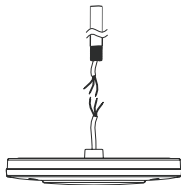

Figure 1
1. Connect the wire of fixture to the main supply in 3/4 NPT Stem according to local electrical connection mode, make sure good protection on the wire joint (Figure 1).